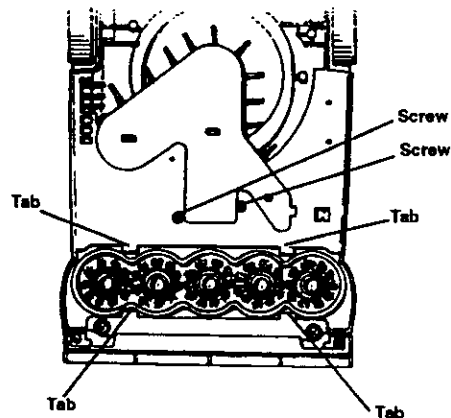

Fig. 17
1. Remove (2) screws from bottom (Fig. 17).